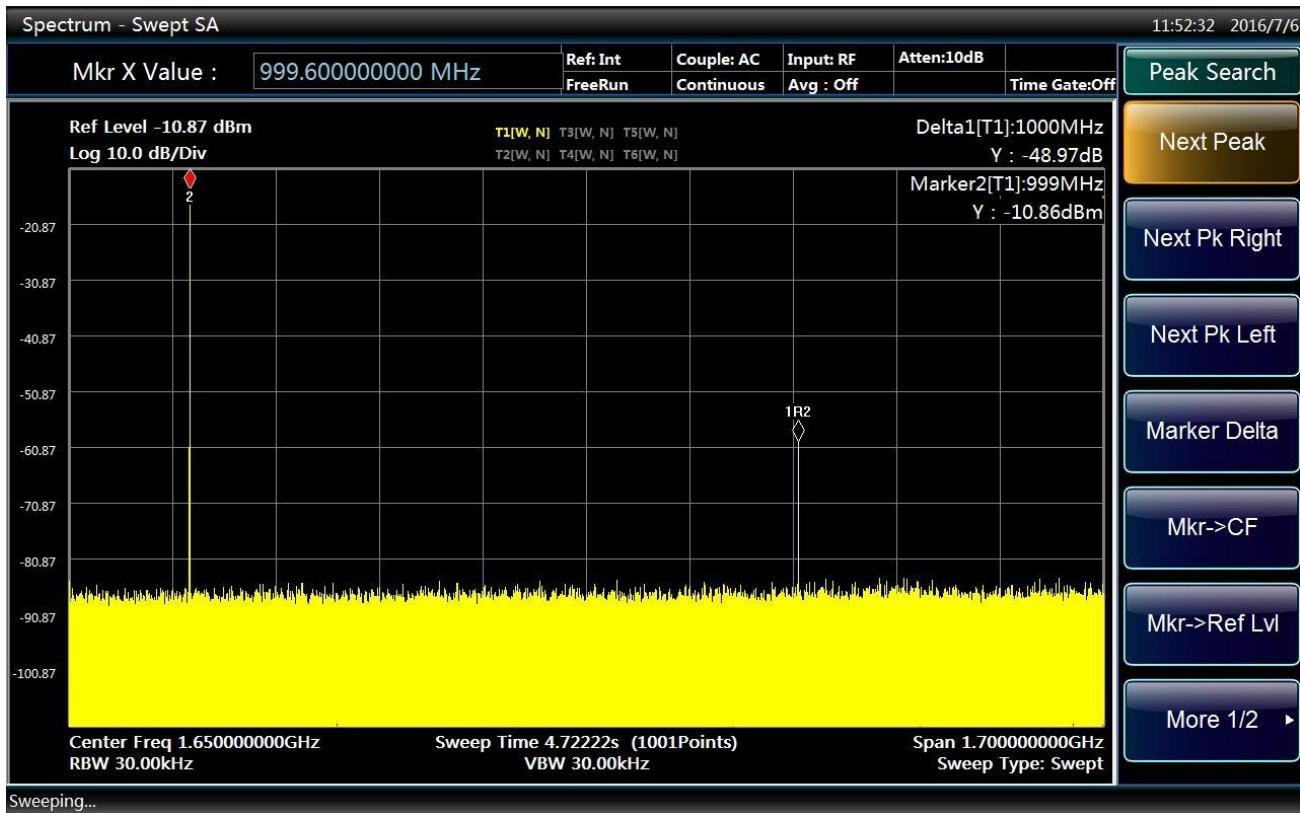

Fig. 4.19 Display interface of second harmonic measurement with delta marker
- Press 【Peak Search】 and [Next Peak]. At this time, the fixed marker is indicated on the fundamental wave and the active marker is at the peak of the second harmonic as shown in Fig. 4.19.